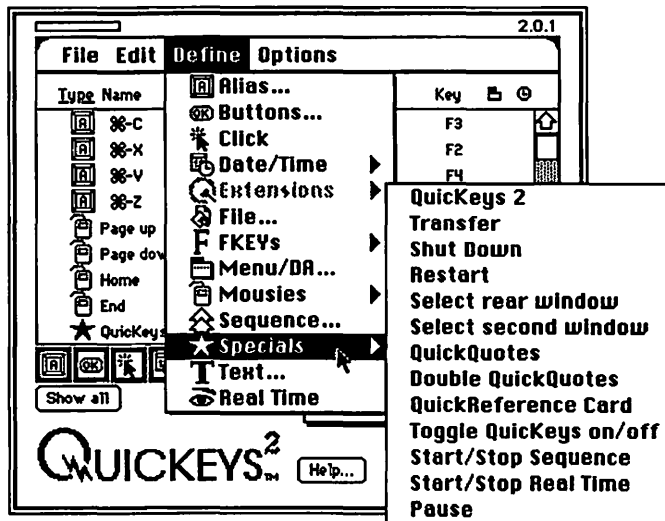

FIGURE 7-9 Many simple macros can be defined in QuicKeys 2 simply by selecting them from a submenu and assigning them a key combination.
**QuicKeys 2** from CE Software is a powerful macro utility for people who have a hard time understanding what macros are all about. Dozens of useful mini-macros (such as QuickQuotes, which enters the correct open or closed quotation mark when you press the Apostrophe Key) are listed in separate menus, organized by category, and virtually ready to run (Figure 7-9); all you have to do is assign them a key combination. Many complex macros can be constructed simply by stringing together two or more of these easy-to-understand